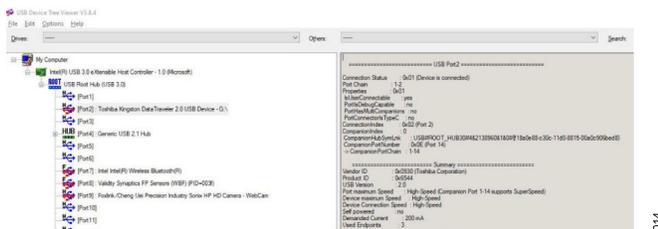

Figure 14. Example USB Device Tree Viewer Screen for a High-Speed USB Device
3. Validate the speed of the USB flash drive using a USB device tree viewer. Figure 14 shows an example device tree of a high-speed USB device.